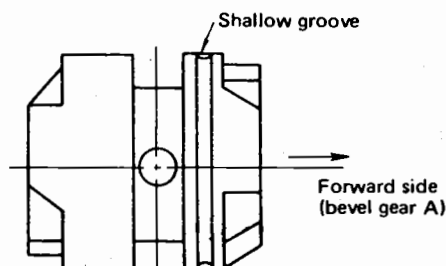

Fig. 76 Clutch
- 3) Pay due attention to the direction of the clutch. (Fig. 76) Take care that the side having a shallow groove is on the forward side. (Bevel gear A).